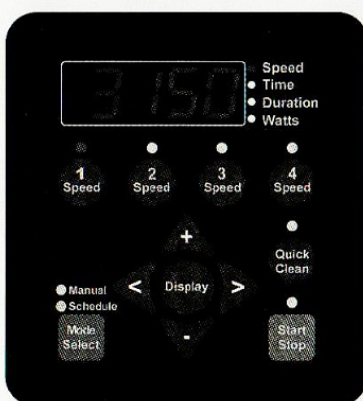

Figure 1
2. Press the "1" button. The LED above the selected SPEED will begin to blink and the "Speed" parameter LED will blink while editing. See Figure 1.